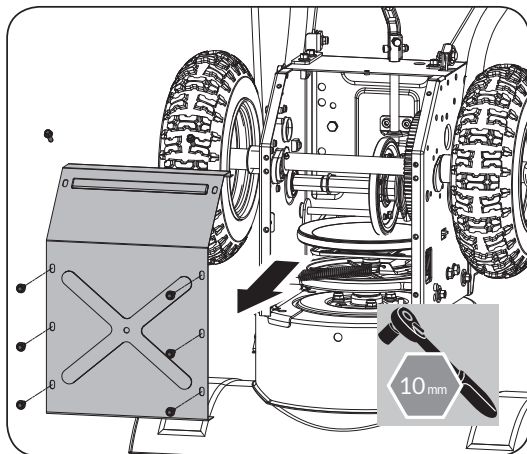

Figure 17c
5. Remove the frame cover from the underside of the snow blower by removing the screws which secure the cover. (See **Figure 17c**)
4. Remove bottom cover to avoid bending it when tipping unit apart. (See **Figure 17c**)
3. Remove the frame cover(s) from the underside of the snow blower by removing the screws which secure the cover(s). (See **Figure 17c**)